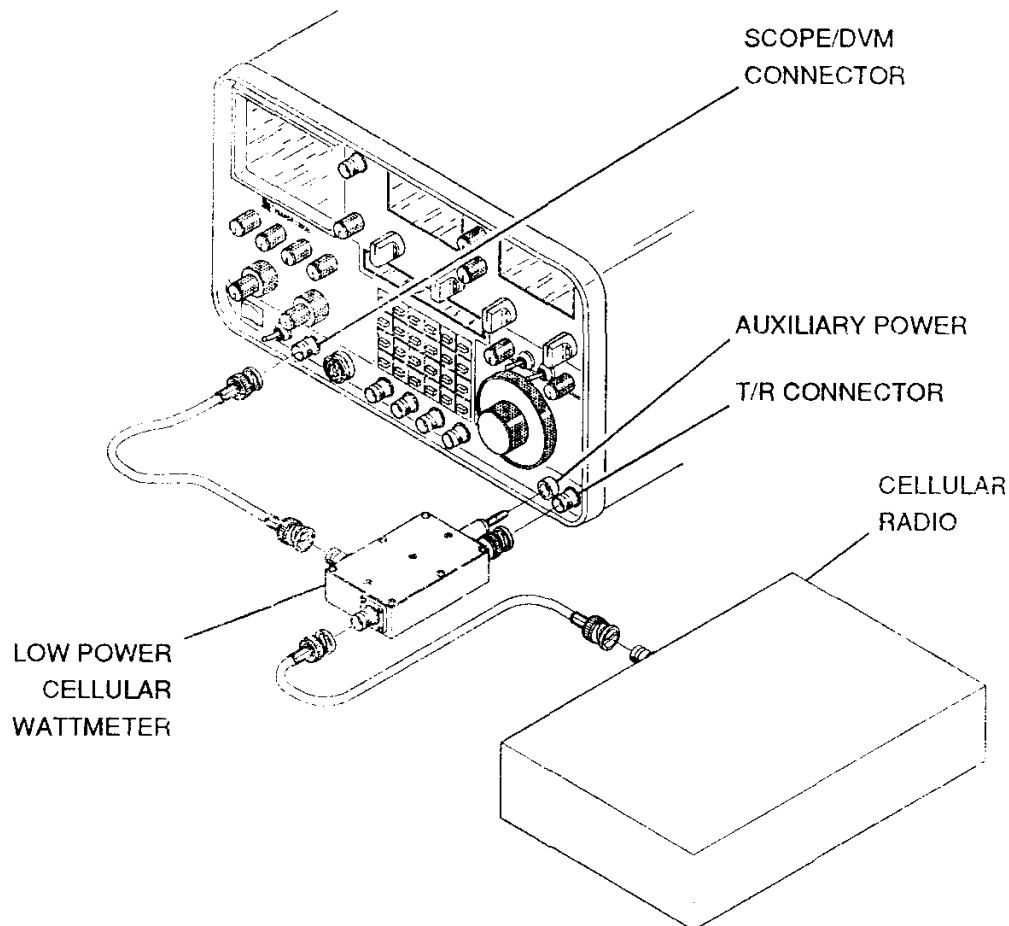

Figure 5-9A Cellular Powermeter Test Hookup Diagram
2.	Connect the Cellular Wattmeter per Figure 5-9A.
3.	Adjust VAR Tone Level Control (6) for an indication of 2 kHz deviation (1.7 kHz deviation for ETACS units) on the MODULATION Meter (1).